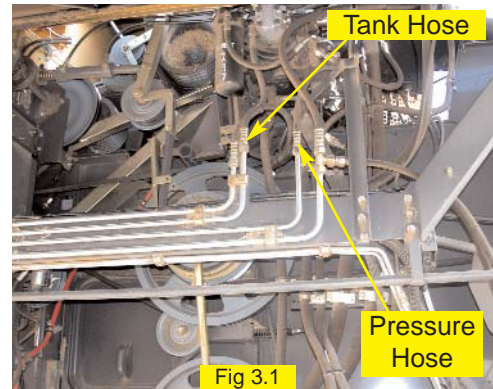

Fig 3.1
The hydraulic control block will be connected in series with the Working Hydraulic Pump where the rubber pressure line connects to the steel line on the left side of the combine. The rubber pressure line from the pump will be connected to the hydraulic control block by using the supplied hose (M). (Figure 3.1)
Excess flow from the hydraulic control block will be returned to the steel pressure line to allow normal operation of the combine working hydraulics. (Figure 3.1)